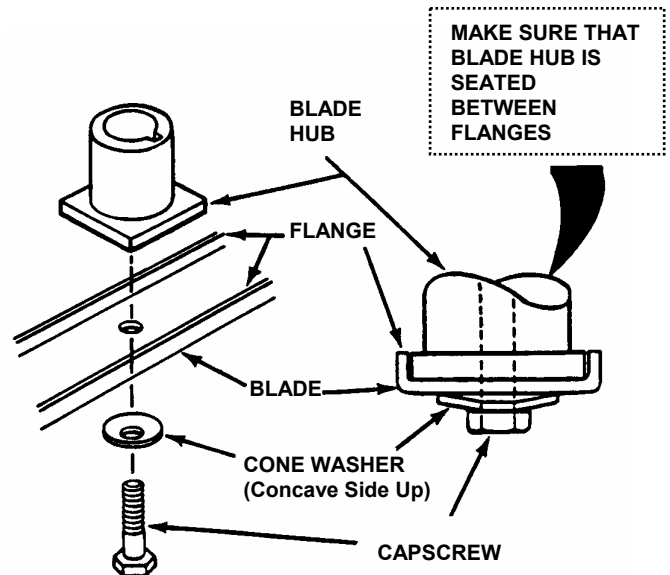

FIGURE 4.3
3. Remove blade. See Figure 4.3.
6. Reinstall blade. See Figure 4.3. Check torque of blade retaining cap screw. Recommended torque should be 40 ft. lbs.